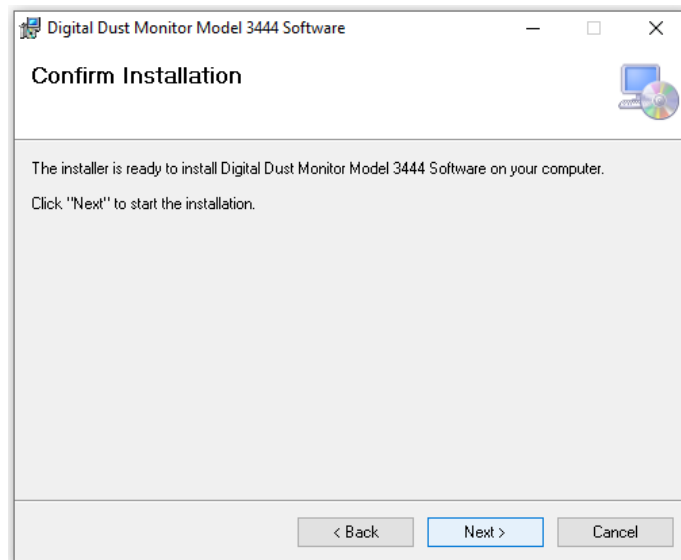

Figure 2-3 Installation confirmation screen
3) Click Next to see Figure 2-3: